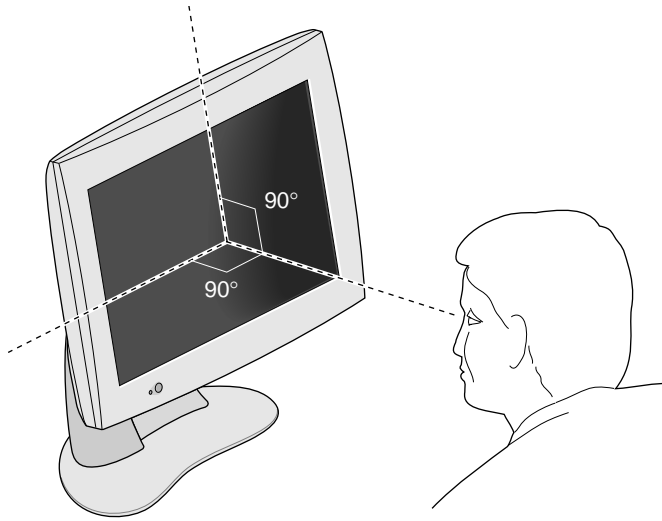

Figure 1-5 Optimum Viewing Angle for the Flat Panel Monitor
- Adjust the monitor height so that the center of the screen is at or slightly below eye level. For the brightest image and most accurate color, view the screen as close as possible to perpendicular (a 90° angle). See Figure 1-5. (Refer to Table 3-1 for the viewing angle limits.)